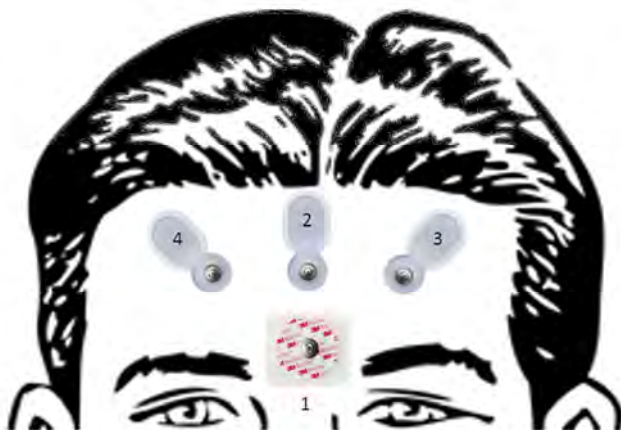
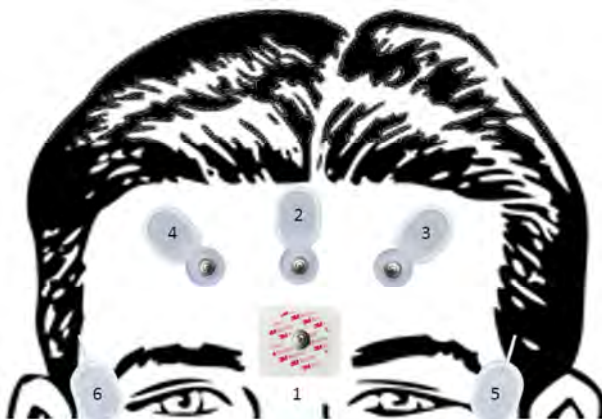

Figure 10 – Optimal 4 EEG Electrode Placement on Forehead
Figure 11 – Optimal 6 EEG Electrode Placement on Forehead
Every study requires the first 4 snap electrodes to be connected as shown in Figure 10.
After the first four snap type electrodes are connected, two additional 'touch proof' style electrodes are attached to the forehead as shown in Figure 11 and connected to inputs 5 and 6 on the Head Sensor unit.
10. Once your skin is dry, unsnap the electrode labelled 1 in Figure 10 from the Head Sensor and remove the protective backing from the adhesive on the electrode. Before pressing on the electrode to secure it, make sure to align the electrode's sticky side to the forehead, arranging it as follows:
11. Connect the Head Sensor to the electrode labelled 1 in Figure 10 through snapping the mating pieces together, ensuring that the flat portion of the Head Sensor is at the top. Peel the cover off electrode 2 and align it on your forehead as shown in Figure 10 before running your finger firmly along the entire outside of the electrode to ensure a secure fix to the forehead. In numerical order, continue securing the remaining electrodes to the forehead following the aforementioned instructions and positioning in Figure 10, Figure 11, and Figure 12.